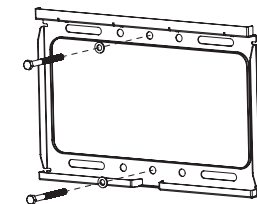

Fig. 2
- 5** Place the wall plate back against the wall and attach it using the lag bolts (A) and washers (B) provided (see Fig. 2). **Do not over-tighten these bolts and do not release the wall plate until both bolts are in place.** Ensure that the wall plate remains level by using the bubble level (N) after tightening the bolts.